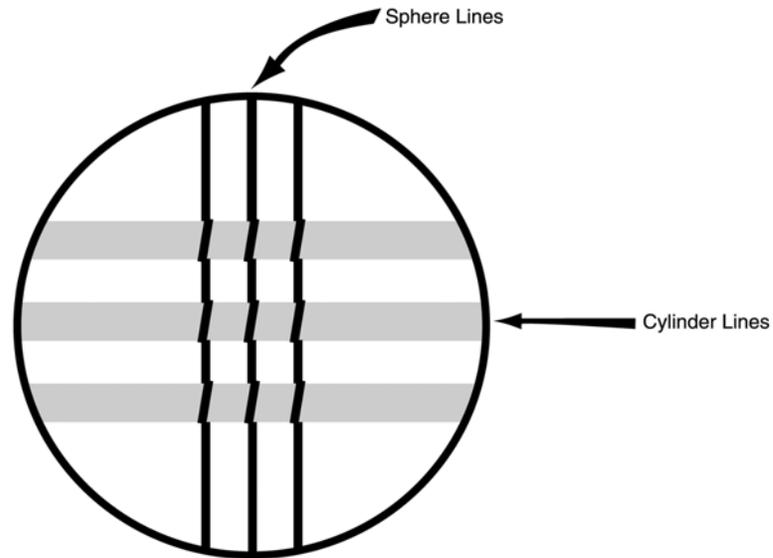

FIGURE 8
- B. Lenses with small amounts (0.25 D) of cylinder are the most difficult to measure. It is difficult to set the axis accurately, and it is easy to miss the cylinder (to accidentally call the lens a sphere). To set the axis accurately for small cylinders, look at the positions where the sphere and cylinder lines cross (Figures 8 and 9). If you are off-axis, the sphere lines will appear to tilt slightly where they cross the cylinder lines, and the edges of the lines may appear jagged.